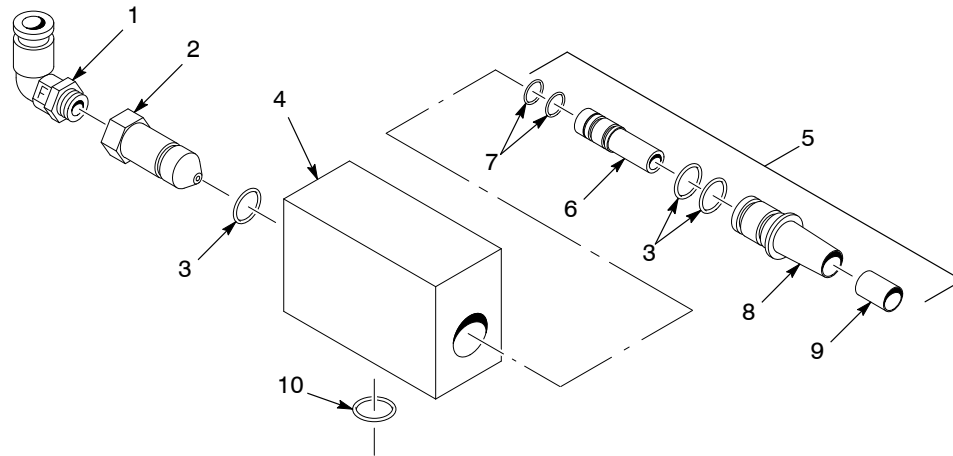

Figure 1 Pump Parts
2. See Figure 1. Connect 1/2-in. air tubing from a regulated air source to the air inlet elbow (1).
3. Connect 19-mm ID powder transfer hose to the throat holder (8) and secure it with a hose clamp.
See Figure 1.